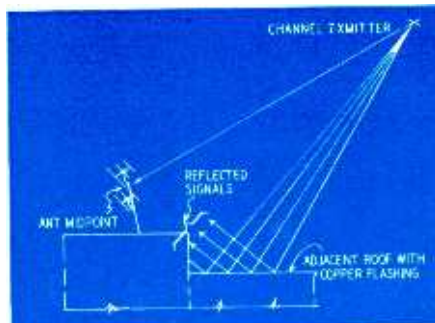

Fig. 2—A stacked Yagi beamed directly at the transmitter antenna helps reduce reflections from an adjacent rooftop.
**Solution 1**—This location was less than a half mile from the channel 7 transmitting antenna and approximately 750 feet lower than the antenna as indicated in Fig. 1. The antenna survey men said that they held the antenna in the conventional horizontal position while making their rooftop investigation. A new survey was made with a stacked array that was tilted and effectively beamed for channel 7. Fig. 2 shows the antenna in its final position where it selected a ghost-free picture. Fig. 2 shows that with a stacked antenna tilted for direct pickup from channel 7 the signals from the station arrive in phase at the midpoint of the stacked antenna. Reflected signals from the copper flashing of the adjacent roof are first induced into the lower section of the stacked array and then into the upper section so they arrive out of phase at the midpoint of the antenna and tend to cancel or at least are reduced to a low enough level